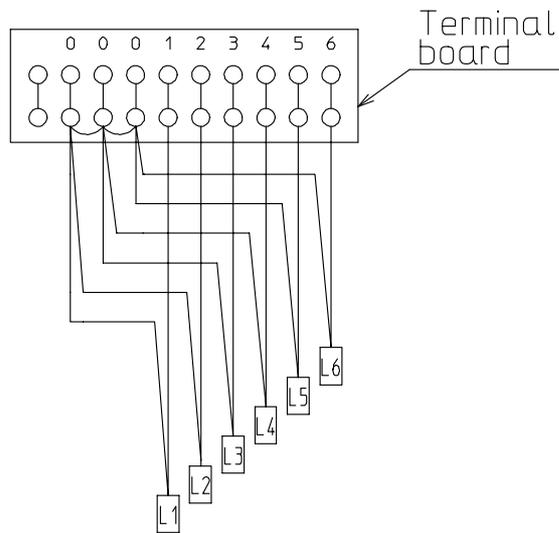

Fig. 11
- (10) Connect each lead wires to the terminals. (Refer to Fig. 11)
- (11) Reinstall the terminal box cover.